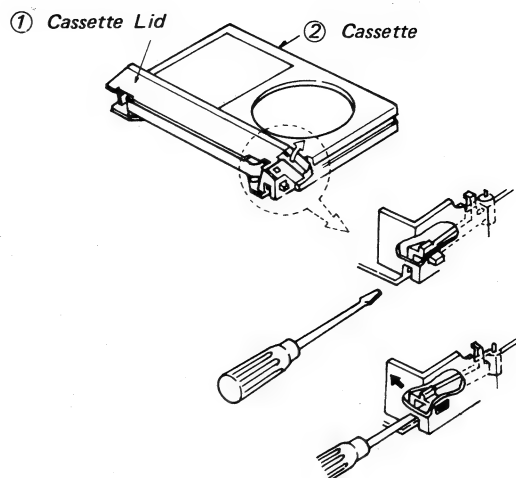

Fig. 5-14 Cassette on Which Lid is Opened.
4. Open the cassette lid ① using a Bladed screwdriver through the hole as illustrated in Fig. 5-14, and install the cassette ② on the reel tables.